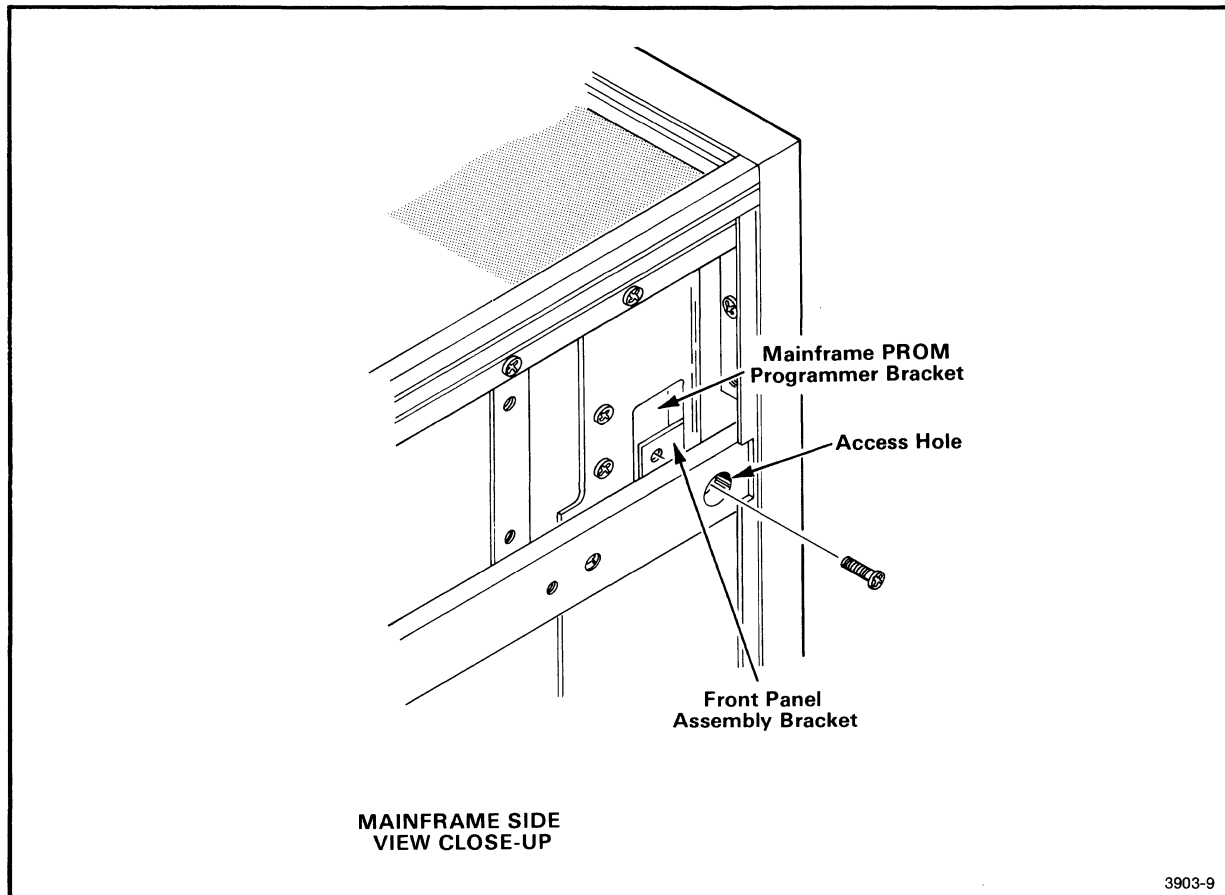

Fig. 2-6. Bracket attachment, as viewed from the left side of the mainframe.
7. Now refer to Fig. 2-6. Attach the front panel assembly subpanel bracket to the mainframe's PROM Programmer bracket, using the remaining Phillips screw and a magnetic screwdriver. A hole in the center frame rail of the mainframe provides access to the brackets.